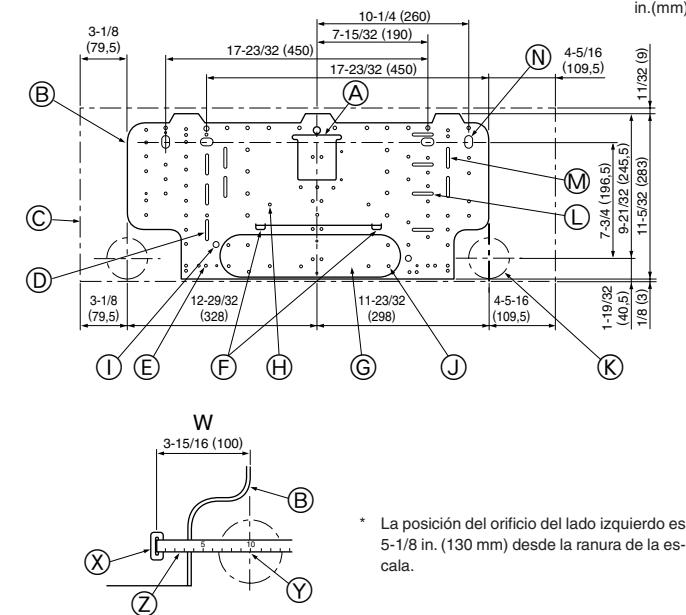

Fig. 3-4
■ PKFY-P06/P08NAMU-E (Fig. 3-4)